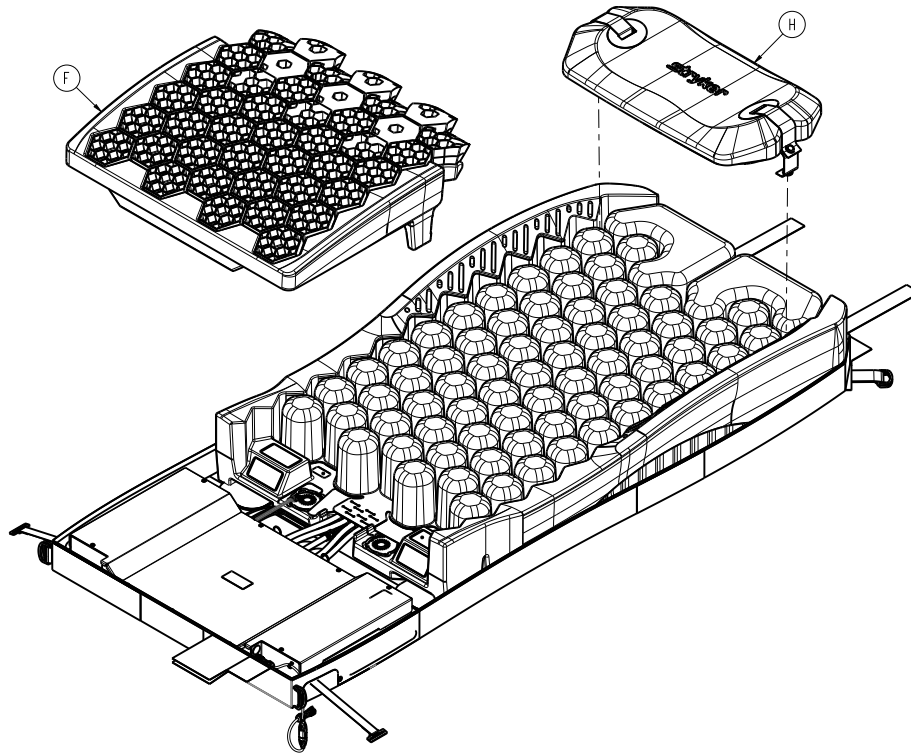

Figure 4 – Gel crib, pillow, and quick disconnect fitting
2. Unsnap the pillow (H) from the left and right side of the pod assembly (Figure 4). Save the pillow.
4. Lift up on the foot section gel (F) to remove the gel crib from the pod assembly (Figure 4). Save the gel crib.